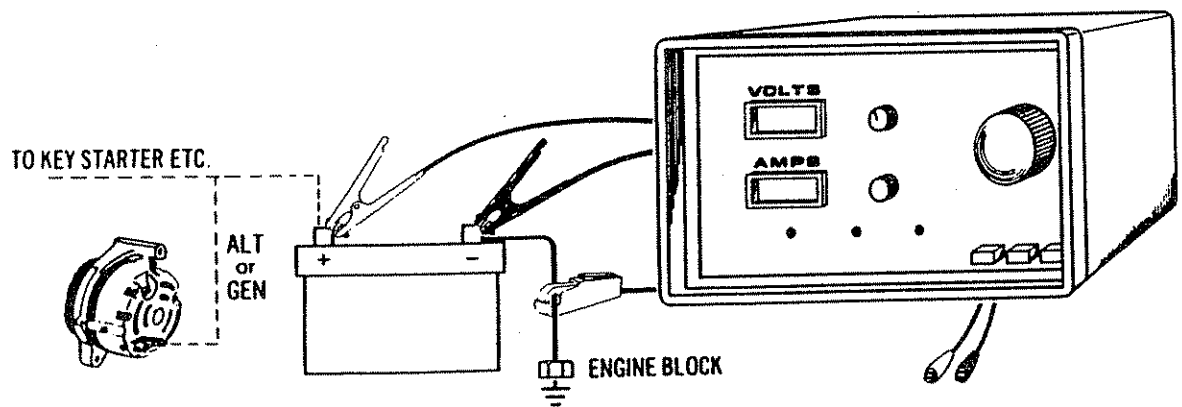

FIG.6
4. Connect "Battery Leads" to battery as shown in figure 6 above.